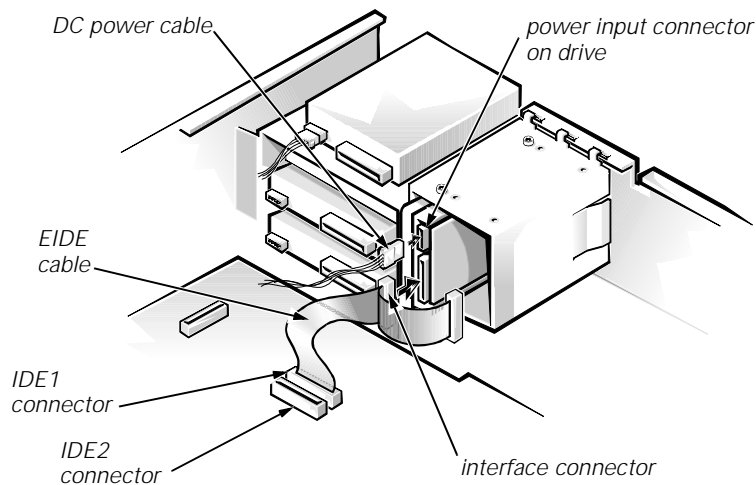

Figure 10-12. Attaching Hard-Disk Drive Cables
- 7. Connect a DC power cable to the power input connector on the back of the drive (see Figure 10-12).**
- 8. Connect one of the device connectors on the EIDE cable to the 40-pin interface connector on the back of the hard-disk drive (see Figure 10-12).**